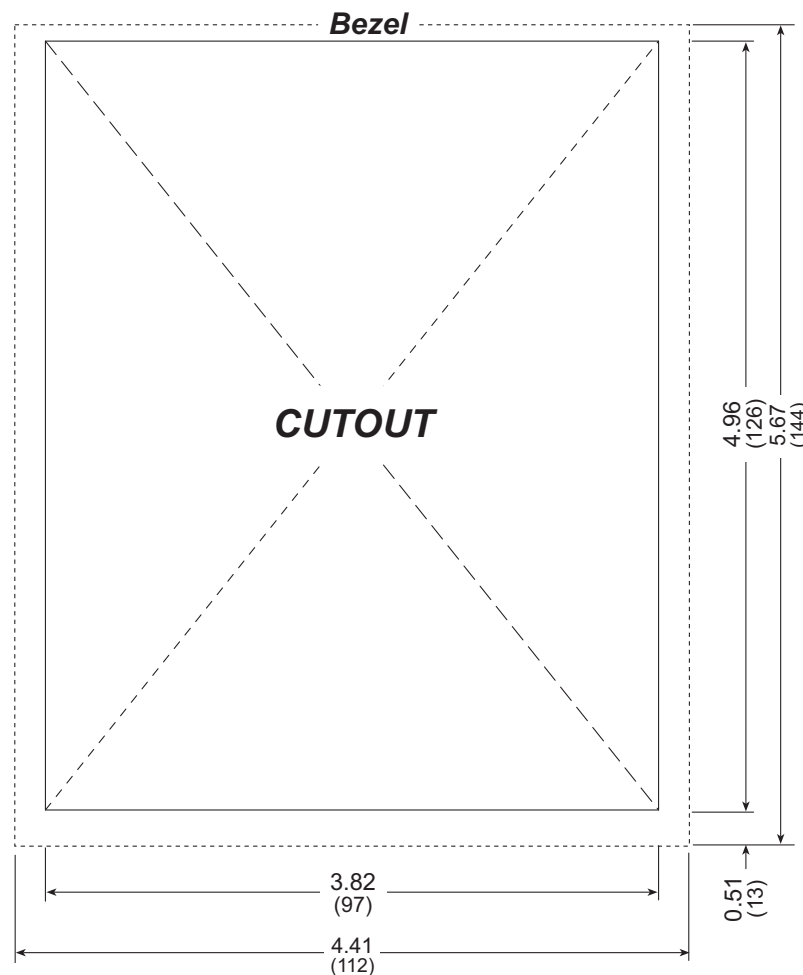

Figure 23. Recommended Cutout Dimensions
1. Cut a mounting hole in the mounting panel in accordance with the recommended dimensions in Figure 23, then use the bezel faceplate to mount the OP7200 onto the panel.